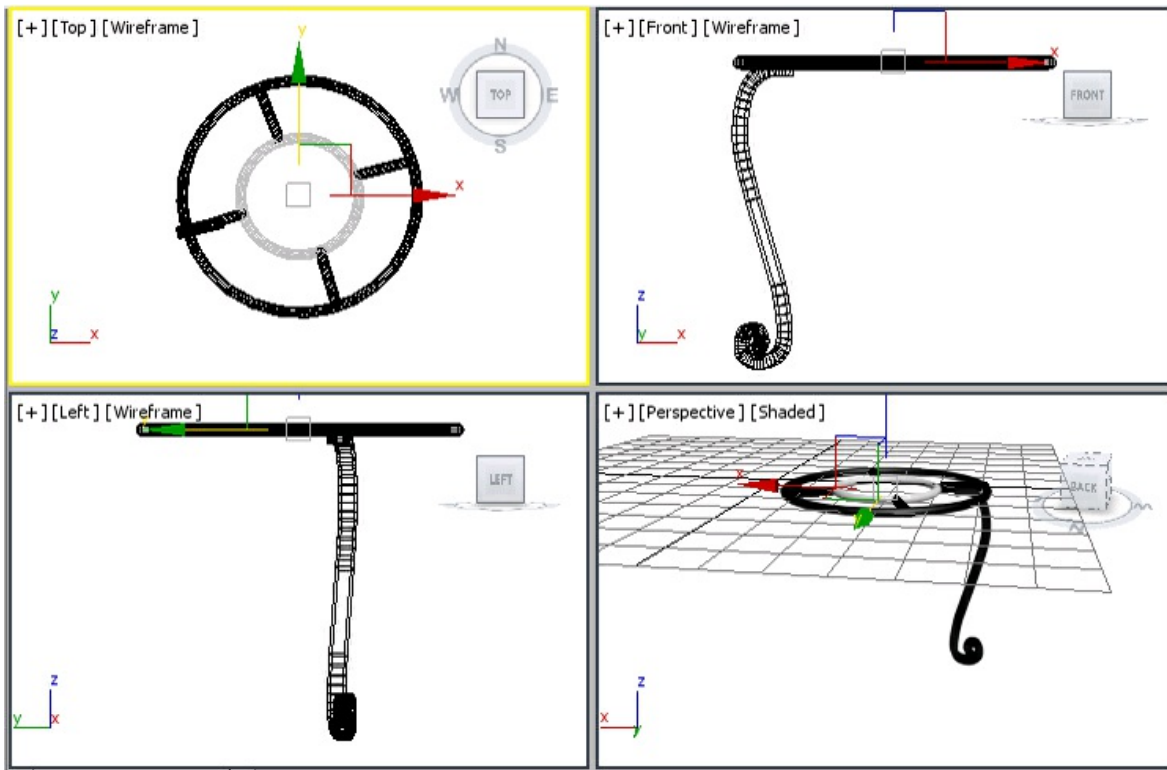

Figure 6-81 Alignment of upper portion and leg01 in viewports
22. Align *upper portion* and *leg01* in viewports, as shown in Figure 6-81.